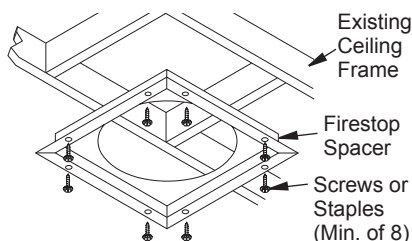

**Figure 9 - Elbow Offset**
When connecting chimney directly to the fireplace, the inner flue pipe section must be installed first with the lanced side up. The outer pipe section can then be installed over the flue pipe section with the hemmed end up. Press down on each pipe section until the lances securely engage the hem on the fireplace starter. The wire will assure the proper spacing between the inner and outer pipe sections. Continue to assemble chimney sections as outlined, making sure that both the inner and outer pipe sections are locked together. When installing double wall snap-lock chimney together, it is important to assure the joint between the chimney sections is locked. Check by pulling chimney upward after locking. The chimney will not come apart if properly locked. It is not necessary to add screws to keep the chimney together (exception - see Figure 9, page 8).
4. All pipe connections between offset and return must be secured with two screws on outer pipe only (see Figure 9, page 8). Do not penetrate inner stainless.